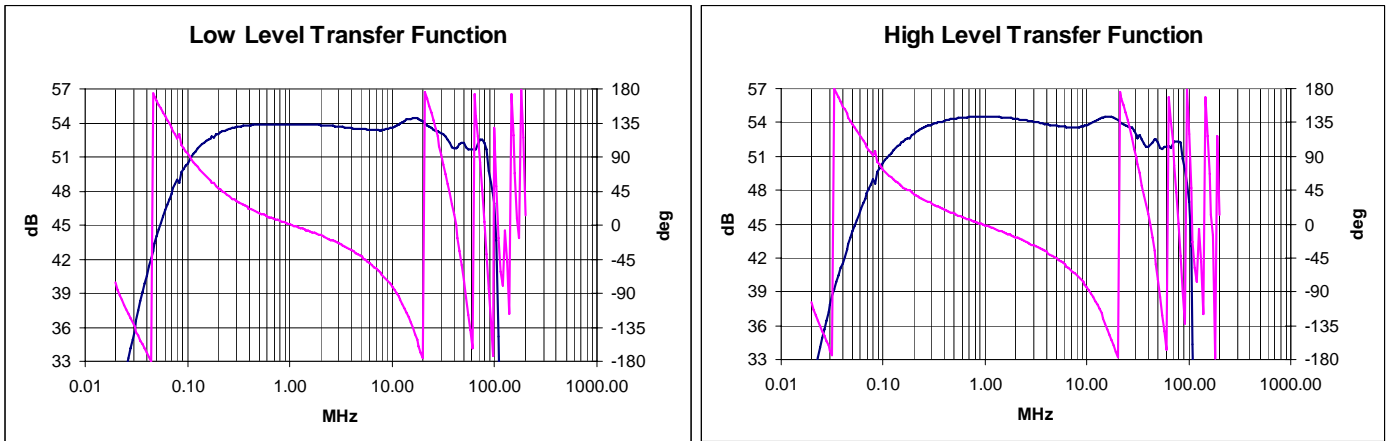

Fig. 2.1 – Low and High Level Transfer Functions
4.3	Measure the amplifier transfer function with an RF input level below -10dBm. Reference is given in fig. 2.1. If necessary adjust C1 in the output combiner so as to obtain the required response.
5.3	Set generator centre frequency to the values listed in fig. 2.1 at the harmonic distortion specification and measure at the two power levels. Note: Operation as to be limited in time according to the output power specification listed in the table mentioned above.